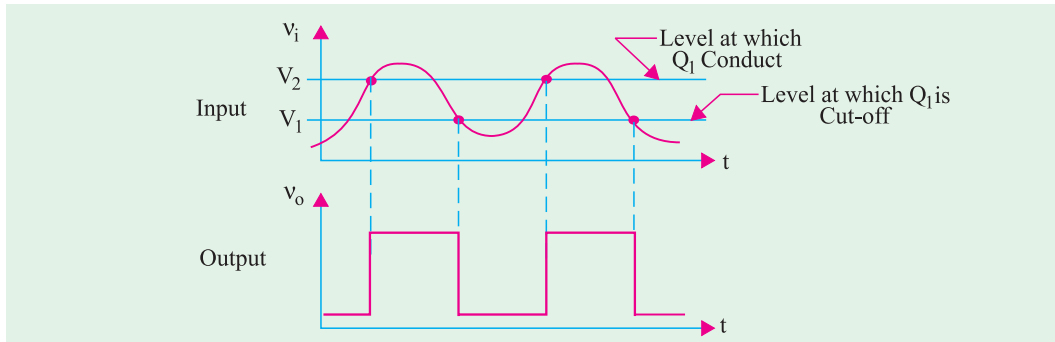

Fig. 65.35
1. It is frequently used for wave-shaping purposes. As shown in Fig. 65.35, it can convert inputs with any waveshape into output pulses having rectangular or square waveshapes. That is why Schmitt trigger is often called a 'squaring' circuit or a 'squarer' circuit.